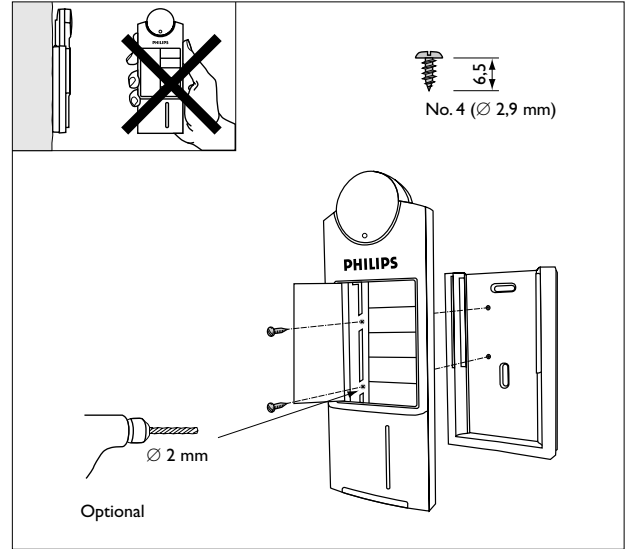

Figure 5b: locking the transmitter in the wall holder
- Fixation in wall holder	: two Parker screws in battery compartment. (see figure 5b)